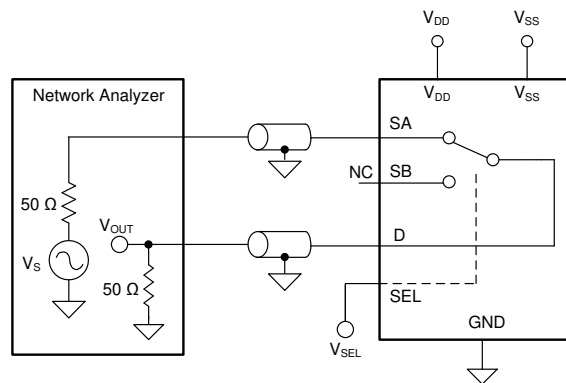

图 7-10. Bandwidth Measurement Setup
Bandwidth is defined as the range of frequencies that are attenuated by < 3 dB when the input is applied to the source pin (Sx) of an on-channel, and the output is measured at the drain pin (D) of the TMUX6136. 图 7-10 shows the setup used to measure bandwidth of the mux. Use 方程式 4 to compute the attenuation.